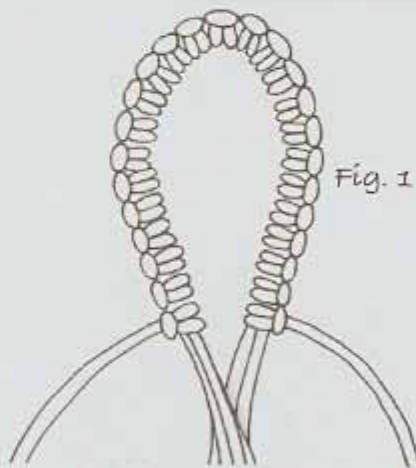

Fig. 1
1. Group together the (4) 80" cords and fold in half, finding the center point of the grouped cords. Take the 92" cord and fold it in the center so that one end is 12" longer than the other. Make a **LHK** (Larks Head Knot) around the grouped cords at the center, making sure that the longer part of the 92" cord is on the left-hand side of the **LHK**.
4. Fold the **LHK** chain in the center to create a loop and pin to board (see Figure 1).